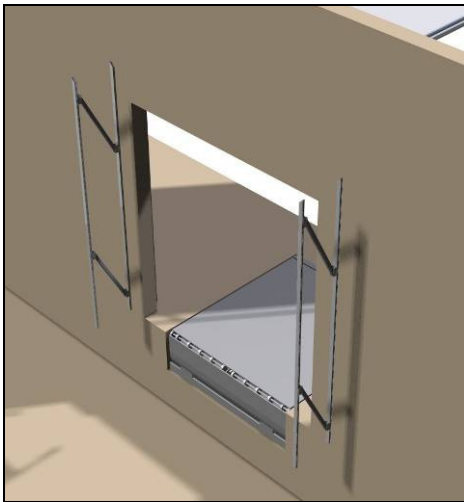

Fig. 2
Verify that the distance between the sides (the width of the dock shelter) is correct (depending on the width of the dock shelter to install). Check that the measurement between the doorway and the guide you are positioning (A) is equal on both sides (see Figs. 2 and 3).